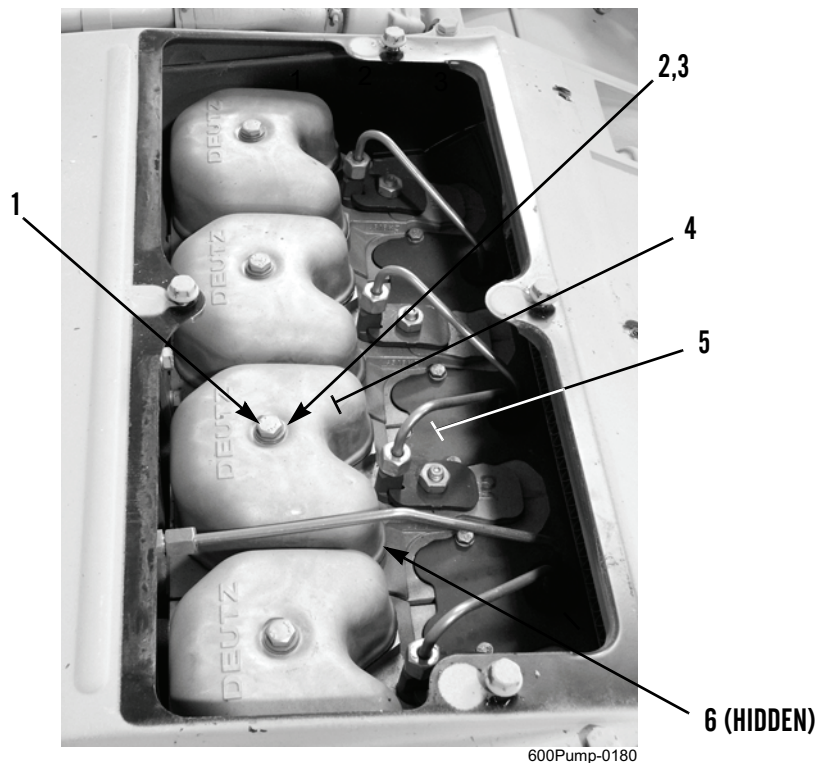

Figure 5. Valve Cover.
1. Apply silicone RTV compound to valve cover (Figure 5, Item 4). Install new gasket (Figure 5, Item 6) on valve cover.
2. Install valve cover (Figure 5, Item 4) on cylinder head (Figure 5, Item 5) with new sealing ring (Figure 5, Item 3), washer (Figure 5, Item 2), and bolt (Figure 5, Item 1). Tighten bolt to 10 lb-ft (13 Nm).